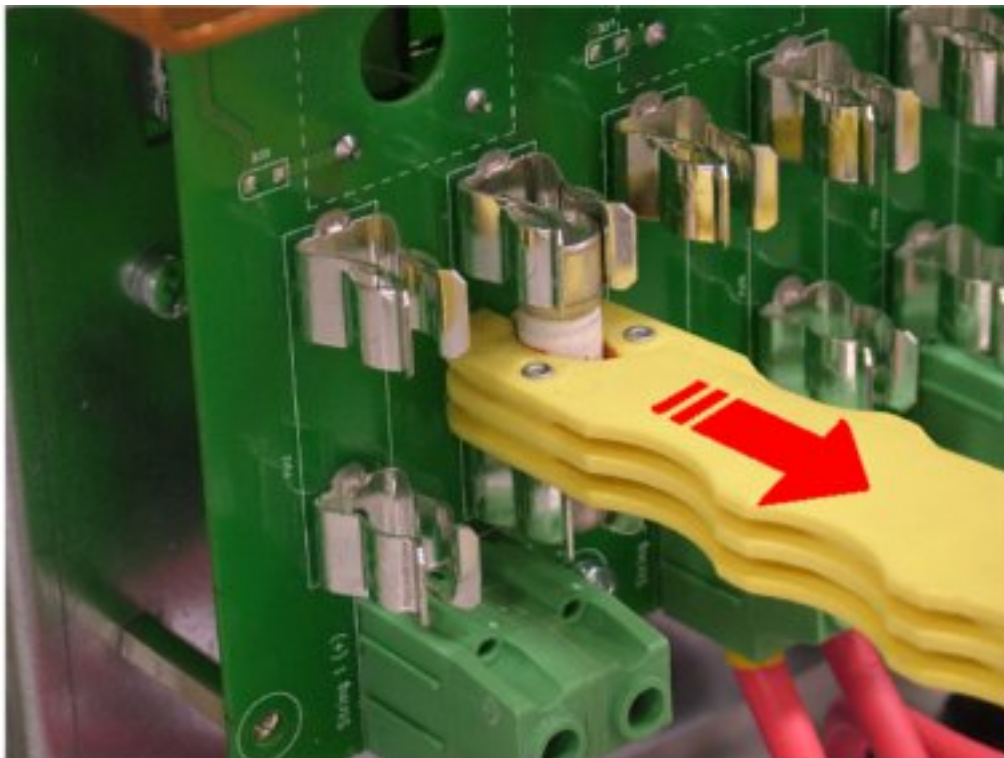

Figure 53: Fuse extraction using the fuse extractor
- Use the special insulated fuse extractor. See Figure 53.